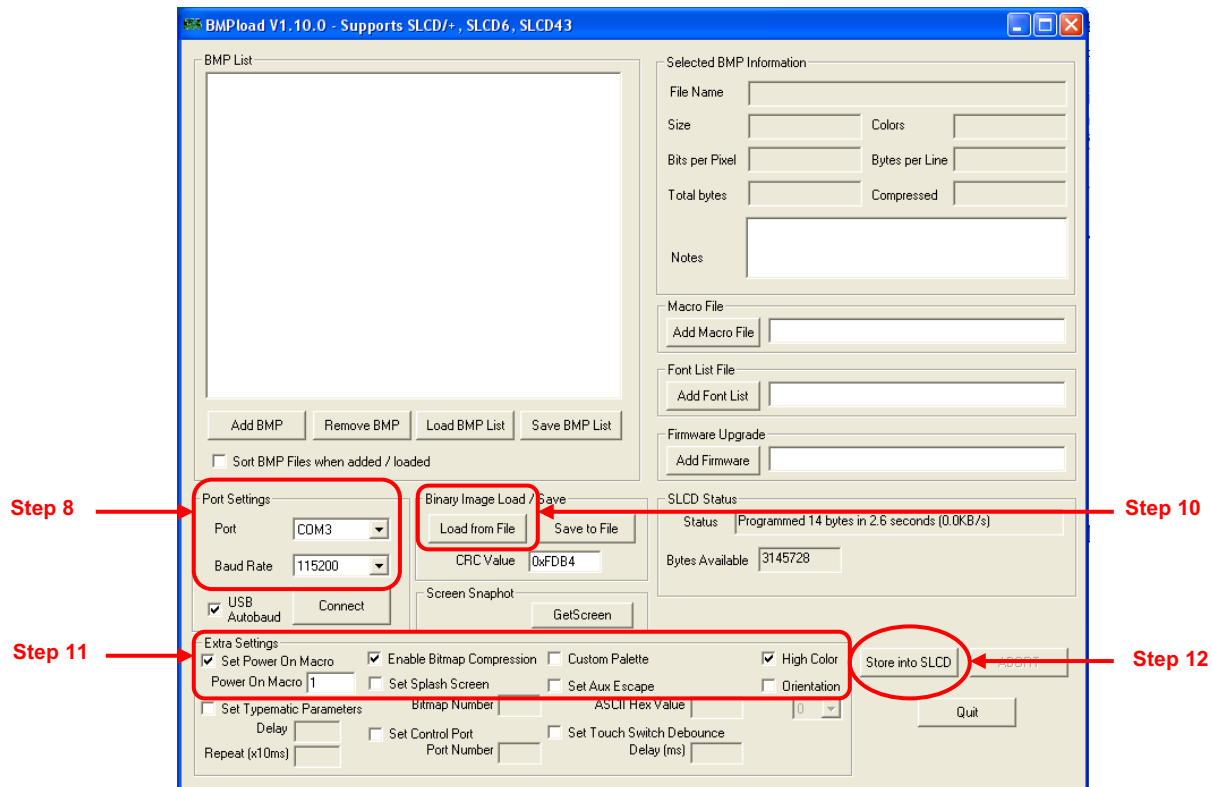

Figure 2-13
Step 8 - (If Required) After new firmware is loaded into the touch screen, all parameters including the Baud rate are reset. The baud rate should now be 115,200. If the baud rate has not automatically changed to 115,200, change it to that rate as shown in Figure 2-13.
Step 10 – Referring again to Figure 2-13, click on “**Load from File**” and a pop-up window will appear. Navigate to the location of the **.BIN** file, select the file and press Open.
Step 12 - Click on “Store into SLCD” and wait until the “SLCD Status” completes (see Figure 2-13).